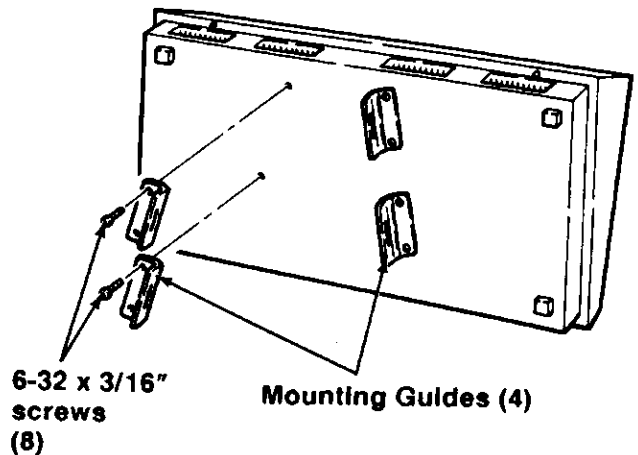

Figure 9 - Attaching the Mounting Guides
4. As shown in figure 9, attach mounting guides to the bottom of the intracom.